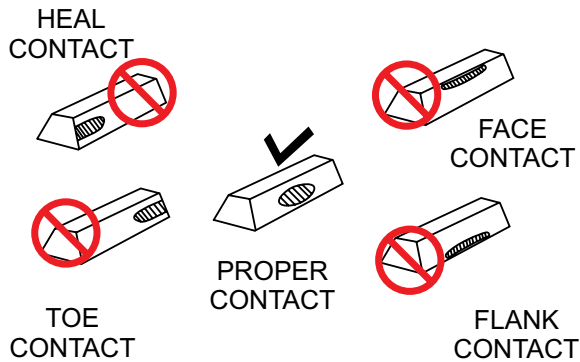

Figure 34. Gear Teeth Alignment
4. If gear teeth are not contacting properly (Figure 34), adjust pillow block to correct the problem.